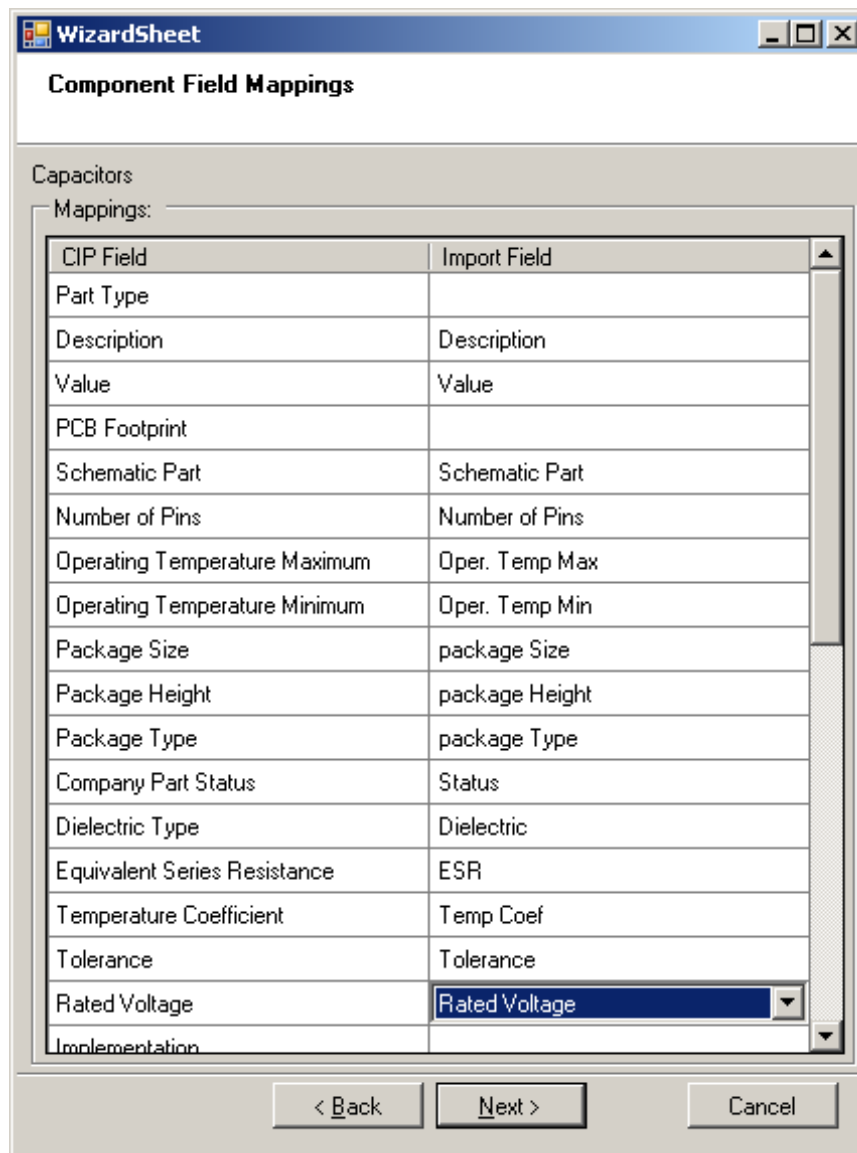

Figure 9: Sample Component Field Mapping
- o Sample.csv – Sample file that match mappings shown in Figure 8 and Figure 9